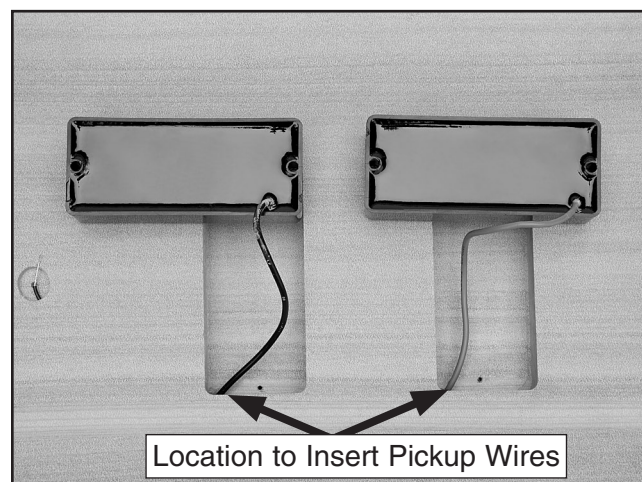

Figure 20. Pickup cavities.
6. Flip the guitar body face up, thread the pickup wires through the holes in the pickup cavities (**Figure 20**) and temporarily tape the pickups to the body with masking tape.